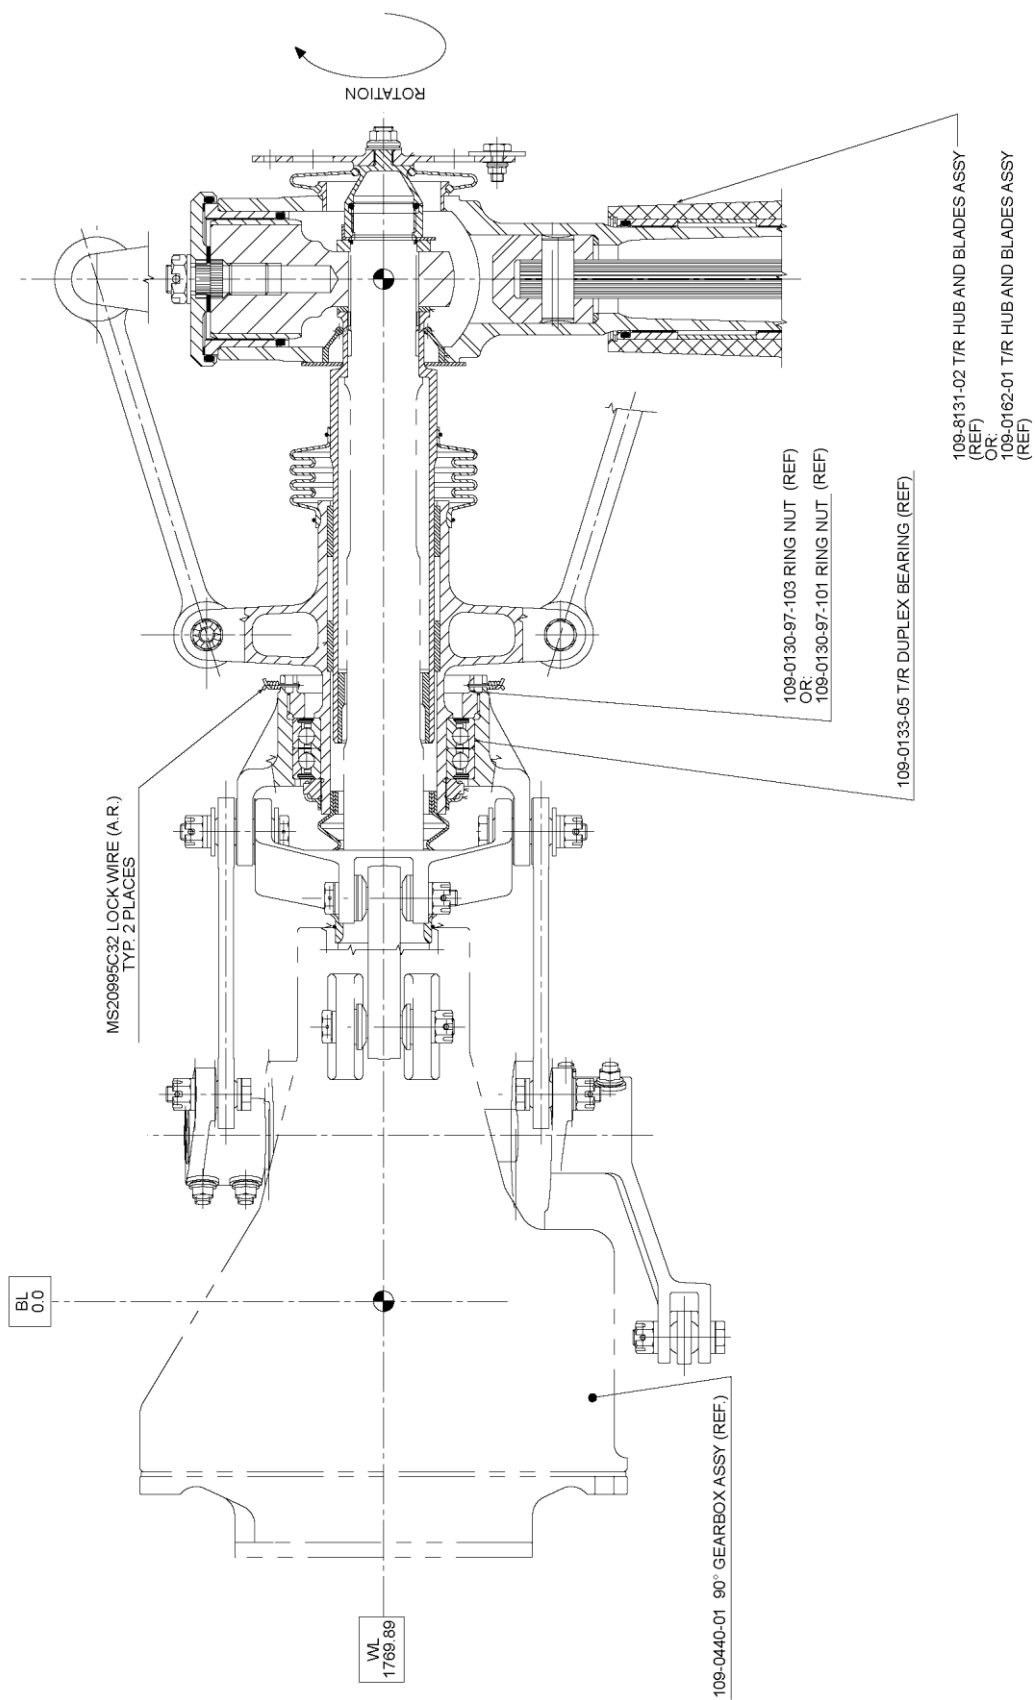

FIGURE 1
2. Gain access to the tail rotor rotating controls P/N 109-0133-01 and visually inspect the two MS20995C32 lockwires, securing the duplex bearing locking nut P/N 109-0130-97-101 or -103 to the housing, for presence and condition (ref. figure 1).
(See figure 1)
2. Gain access to the tail rotor rotating controls P/N 109-0133-01 and visually inspect the two MS20995C32 lockwires, securing the duplex bearing locking nut P/N 109-0130-97-101 or -103 to the housing, for presence and conditions (ref. figure 1).